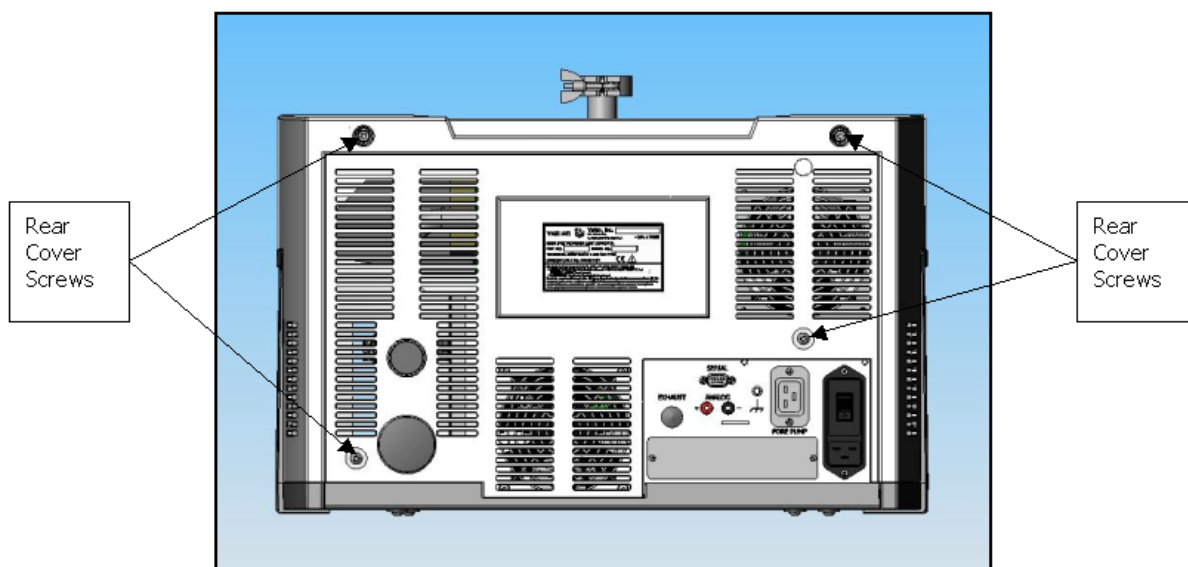

Figure 1: Rear Screws
3. Using an extended length M5 Allen wrench, remove the four screws holding the rear plastic cover (Figure 1: Rear Screws).